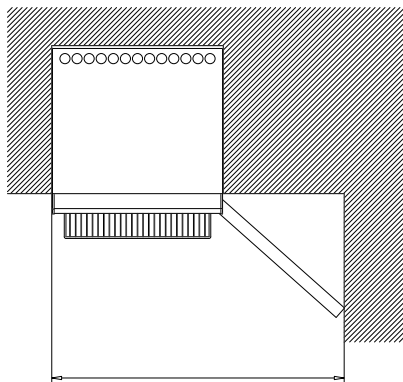

Fig. 2D
3. The distance to the wall at the hinge side must be of a sufficient size. - Fig. 2d, page 6.